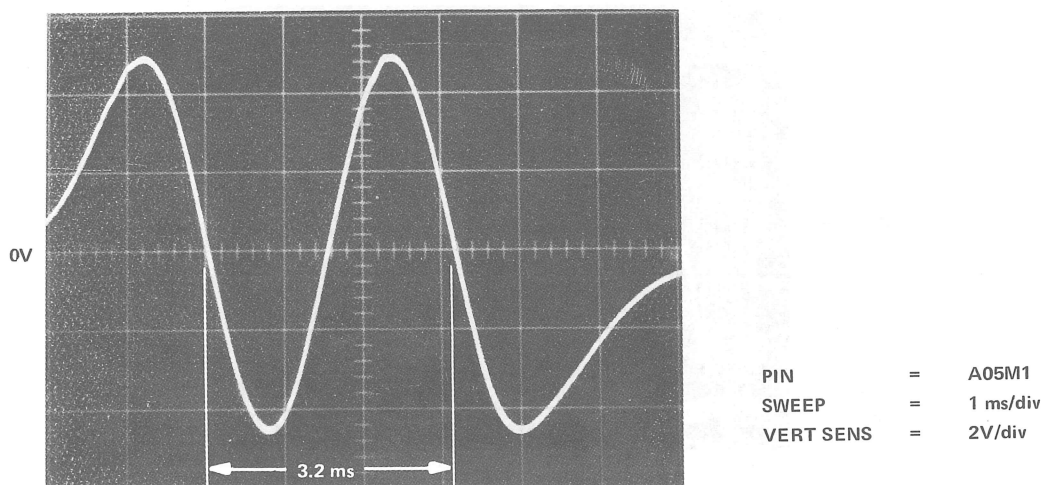

Figure 5-13 Velocity Amplitude Waveform
- Observe A05M1 for a scope display as illustrated in Figure 5-13. The duration of the center cycle must equal $3.2 \pm .05\text{ ms}$.